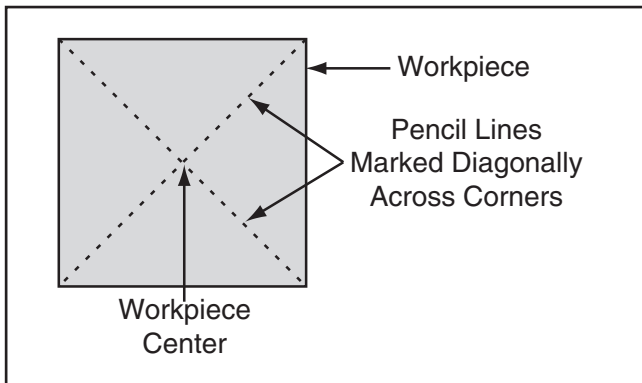

Figure 34. Workpiece marked diagonally from corner to corner to determine the center.
1. Find center point of both ends of your workpiece by drawing diagonal lines from corner to corner across end of workpiece, as shown in **Figure 34**.